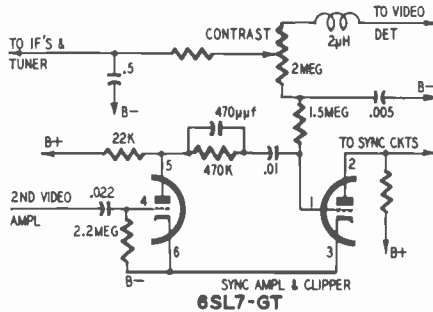

Fig. 5-C. Contrast-control circuit.
**SYMPTOMS:** Dark pix that does not respond to action of contrast control, partially or completely. See Fig. 5-C.